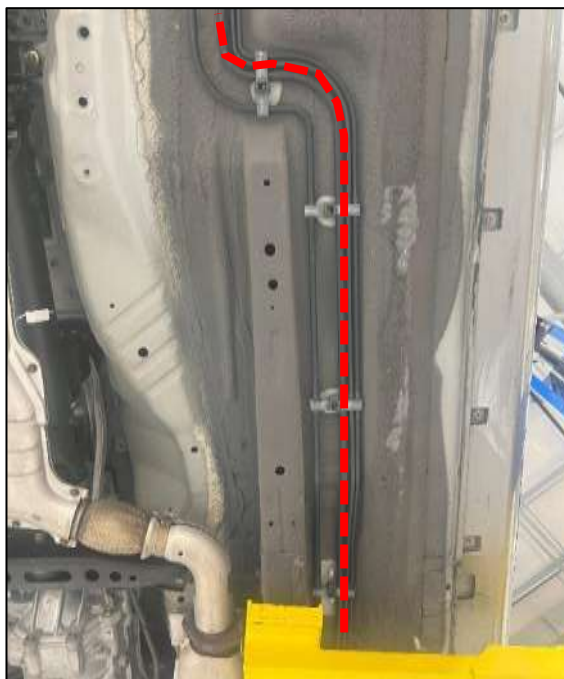

Figure 45
9. Route the rest of the Feed Line along the Factory Hard Fuel Line against the passenger side frame rail (shown below). There is an open spot on the hardline retaining clips, route the Z1 Lines in that spot. *Figure 45.*